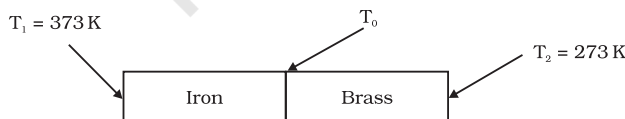

Fig 10.16
► **Example 10.7** An iron bar ($L_1 = 0.1$ m, $A_1 = 0.02$ m², $K_1 = 79$ W m⁻¹ K⁻¹) and a brass bar ($L_2 = 0.1$ m, $A_2 = 0.02$ m², $K_2 = 109$ W m⁻¹ K⁻¹) are soldered end to end as shown in Fig. 10.16. The free ends of the iron bar and brass bar are maintained at 373 K and 273 K respectively. Obtain expressions for and hence compute (i) the temperature of the junction of the two bars, (ii) the equivalent thermal conductivity of the compound bar, and (iii) the heat current through the compound bar.